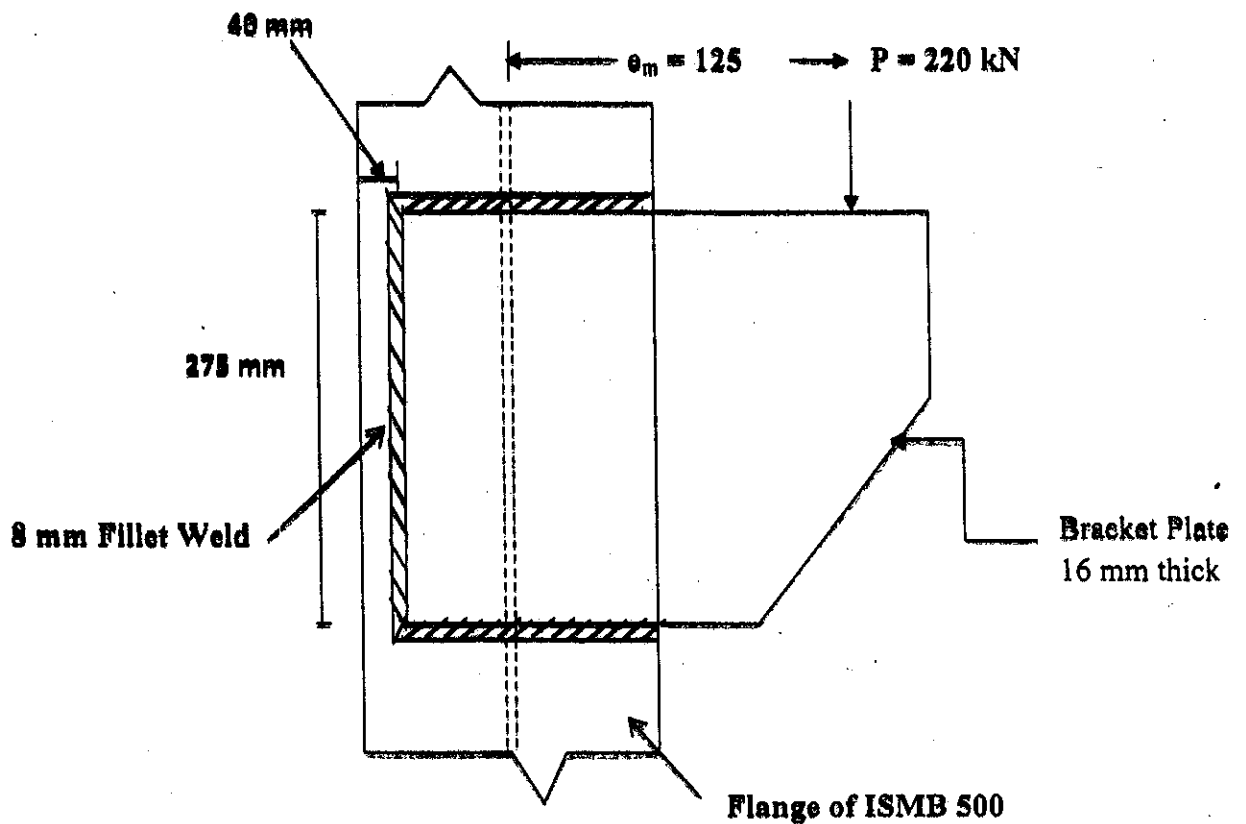

Fig. 2: Schematic Diagram of the Double Bracket
- b) Check the safety of the double bracketed weld connection as shown in Fig.2, subjected to a total load of 220 kN at an member eccentricity of 125 mm. Use 8 mm fillet weld. 20